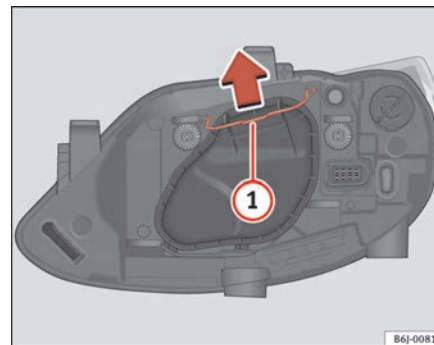

Fig. 141 Dipped beam / main beam, single light
- Remove the loop ⇒ page 218, fig. 141 ① in the direction of the arrow and remove the cover.